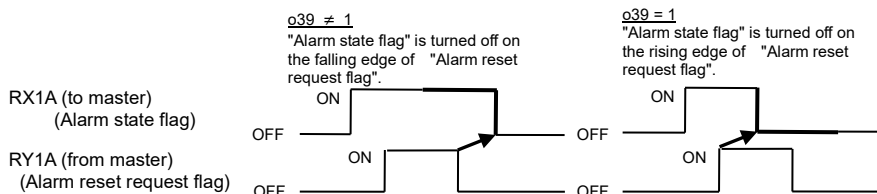

Figure 7.1 Operation selection of "Alarm state flag" specified with [o39]
*4 Please change the settings when an alarm is not generated. Refer to Figure 7.1 Operation selection of "Alarm state flag" specified with [o39]. This function is available in ROM version 700 and later. To check the OPC-CCL's ROM version, use " 15" of Menu #5 "Maintenance Information" on the keypad. (Refer to the instruction manual of the inverter series shown in Table 1.1.)